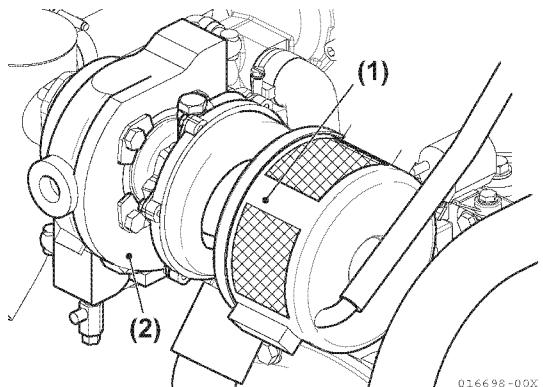

Figure 9-7
(Figure 9-7, (1)) and the 4JH4-HTE
(Figure 9-7, (2)) and 4JH4-HTE